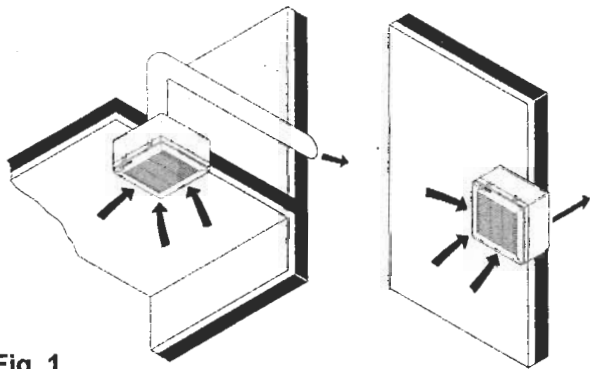
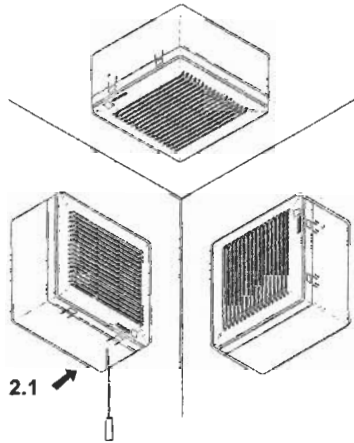

Fig. 1
Fig. 2
5. *CENTRIF 170HP and 250HP. These fan models are fitted with automatic electronic humidity sensing. In addition to the above instructions the fan should ideally be mounted on an inside wall between the major moisture source and the door to the other rooms of the building. The humidity sensor needs free air circulation so do not site closer than 100mm to cupboards, etc. Do not site above a radiator or other heat source. We recommend the HP models are mounted as shown in Fig. 2. 1.*
The CENTRIF Series is a range of centrifugal extractor fans. Suitable for both ceiling and wall installation, they may be adapted to an individual duct or to a communal ventilation system. Fig. 1. The discharge port, situated at the side on the back of the extractor housing, enables it to be installed anywhere on the wall or ceiling, even in inaccessible corners (Figs. 2 & 3).
**NOTE:** Pullcord models DP and HP should be mounted as shown in Fig. 2. 1. If **NOT** mounted as Fig. 2. 1., a support (not supplied) must guide the pullcord so that it does not rub the fan body. The pullcord (if used) **MUST** be easy to operate.